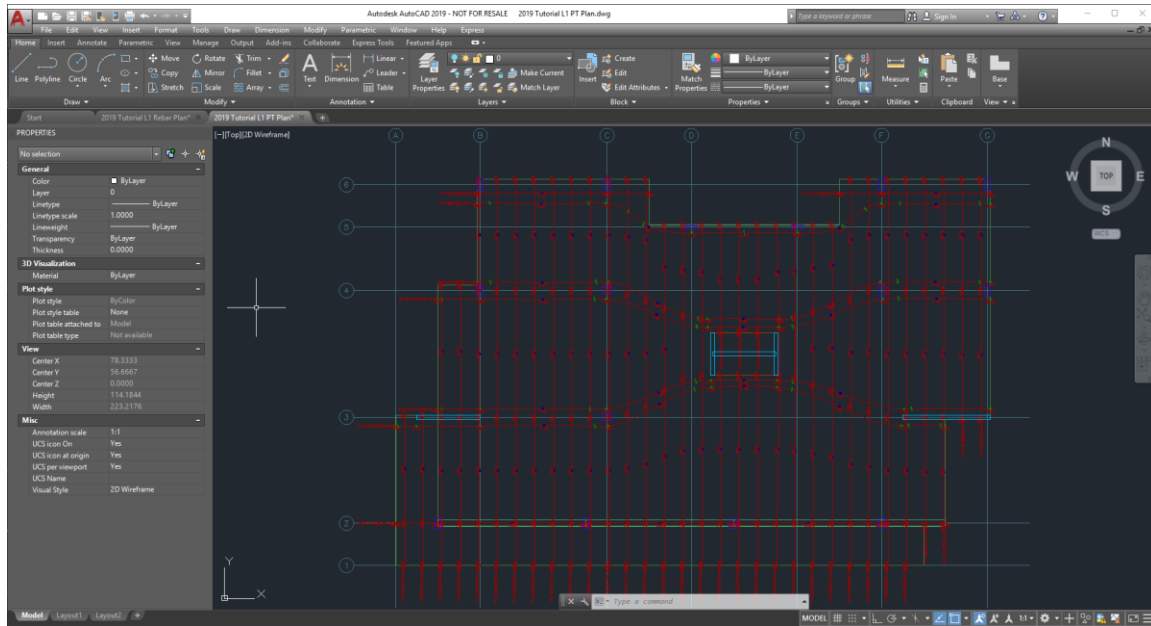

Figure 9-121
- Opening the drawing the user will have a CAD file that looks like the CAD file shown in **FIGURE 9-121**.